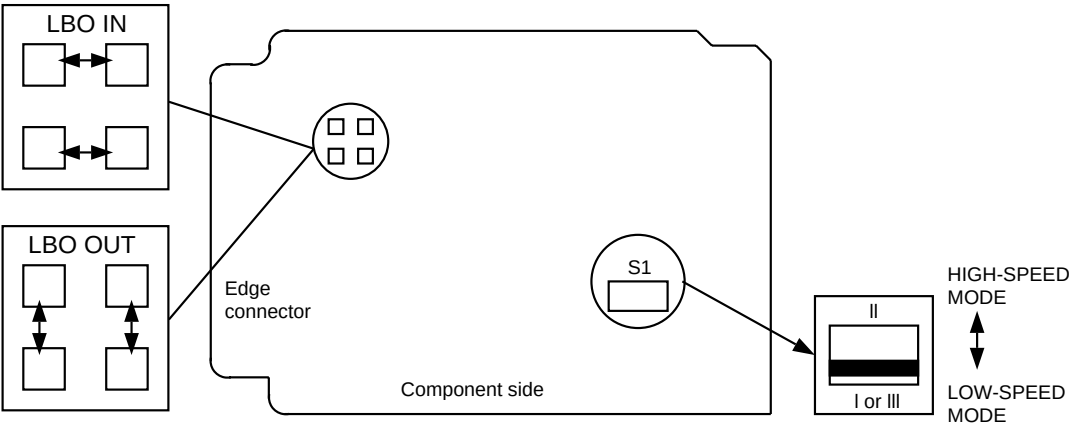

Figure 7. BBG6 STS1E Option Settings
44. Install the **BBG6 STS1E** option jumpers per Table M and Figure 7.